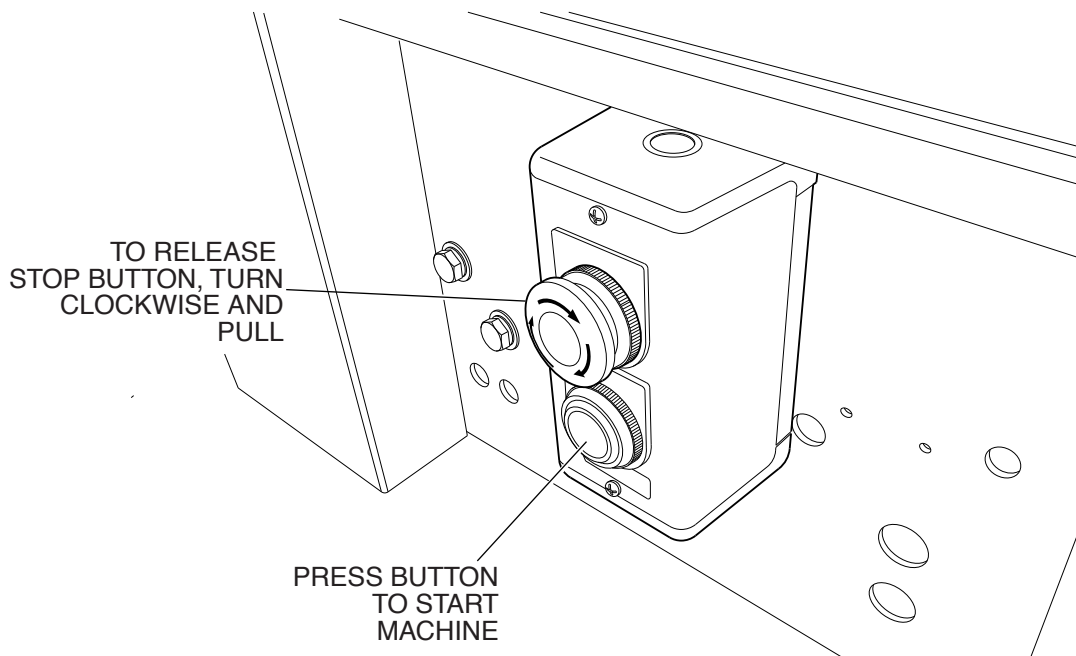

Figure 19 Start and stop buttons
1. Press the START button (figure 19)